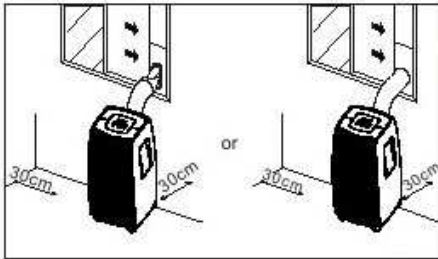

Fig.1
- Allow at least 30cm (approx 12 inches) of space from the wall for efficient airflow. (Fig.1)